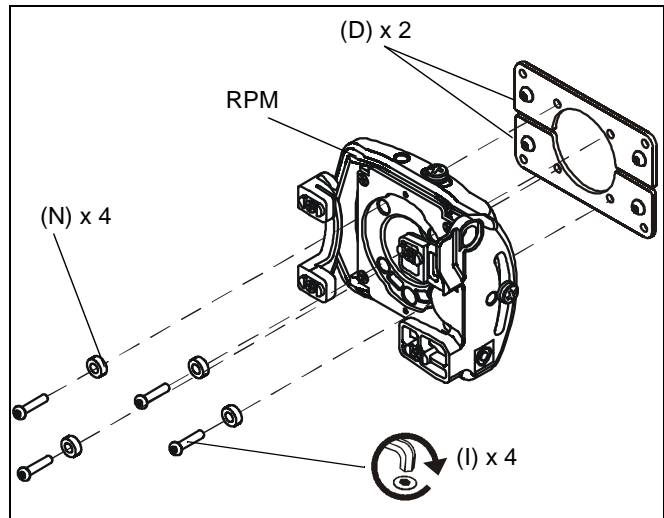

Figure 3
2. Attach two interface brackets (D) to RPM using four 1/4-20 x 1-1/2" buttonhead cap screws (I) and four nylon spacers (N). (See Figure 3)